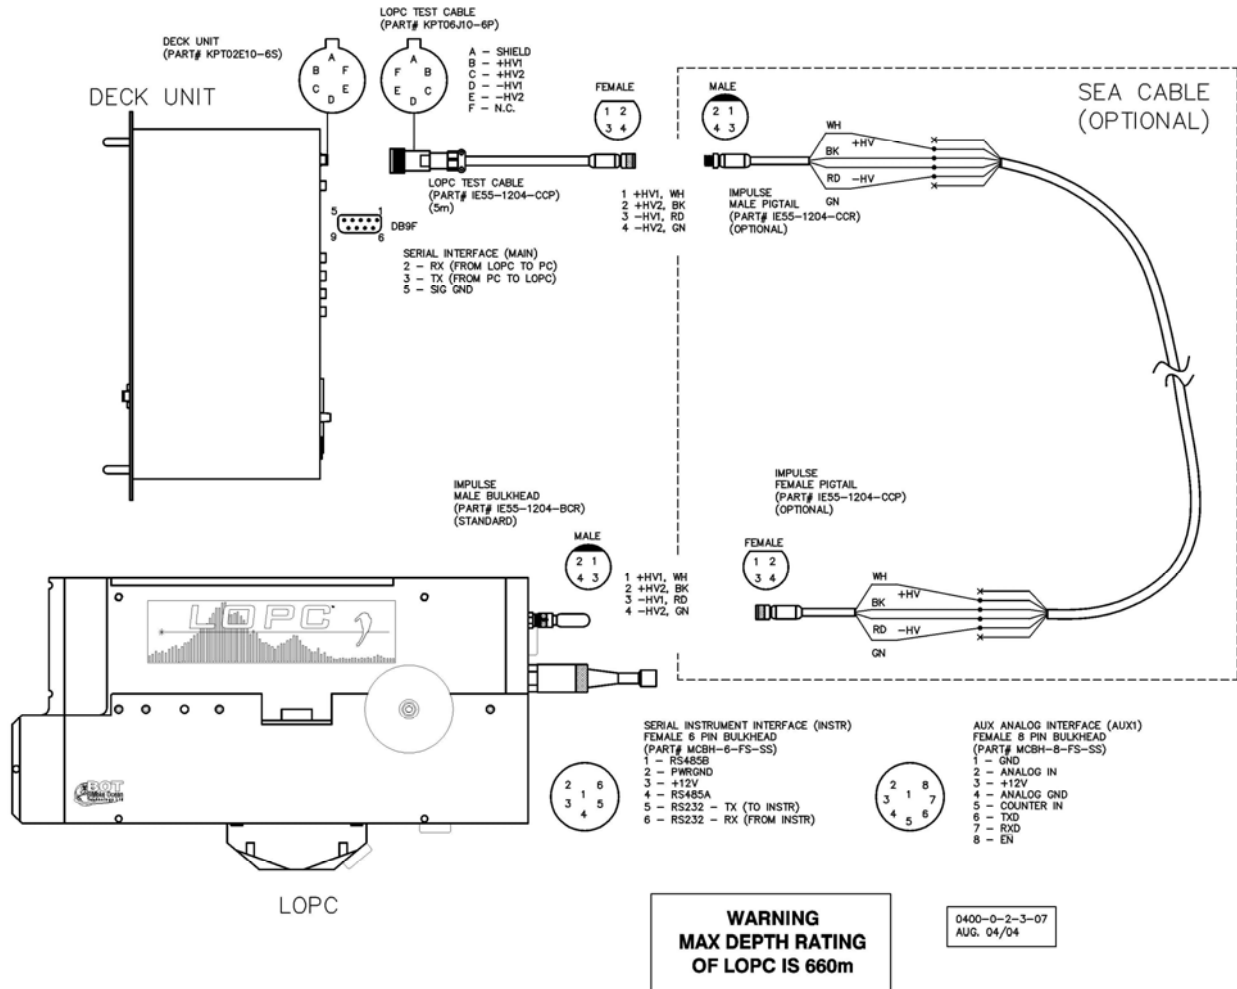

Figure 14
Integration with an existing profiling platform or tow-body may require the construction of jumper cables that are compatible with the LOPC and deck unit. Figure 14 shows a generic wiring schematic. The test cable is used to interface the deck unit to the sea cable.
1. Connecting LOPC to Sea Cable (see Figure 14)
2. Connecting Deck Unit to Sea Cable (see Figure 14)